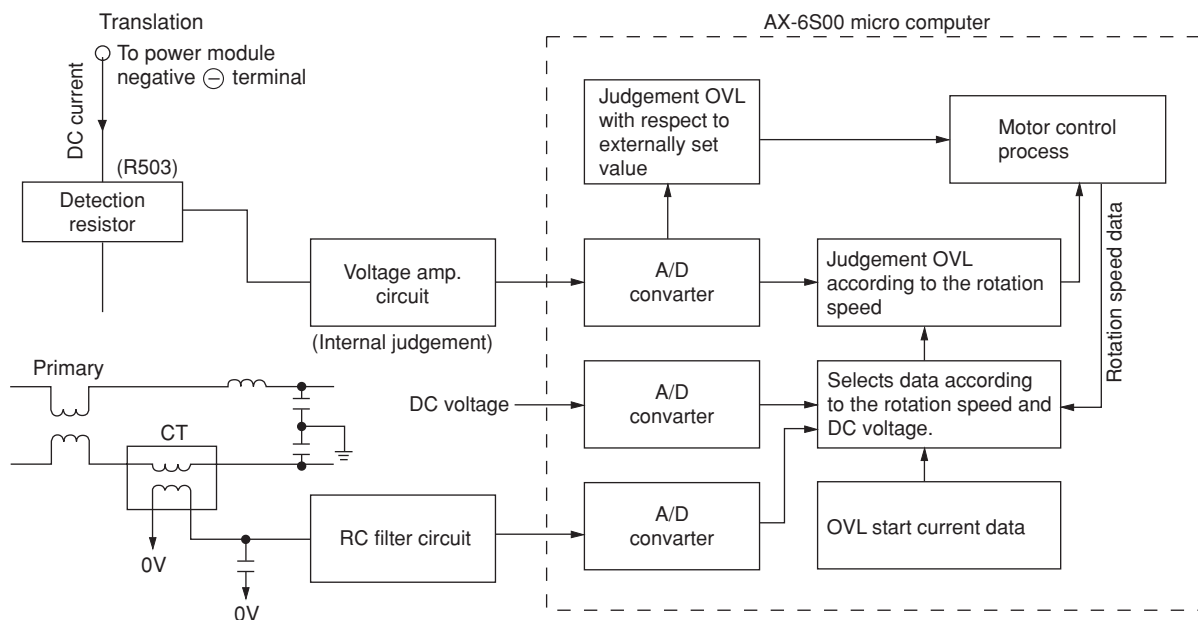
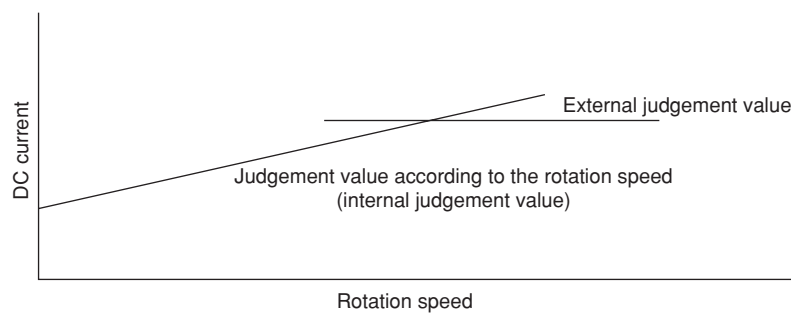

Fig. 8-1 Overload Control System Configuration
Fig. 8-2
- Fig. 8-1 shows the overload control system configuration and Fig. 8-2 is a characteristic diagram of overload judgement values. There are two judgement methods-external judgement which compares the externally set value with the DC current value regardless of the rotation speed and internal judgement which compares the set value that varies according to the rotation speed programmed in the microcomputer software with the DC current value.